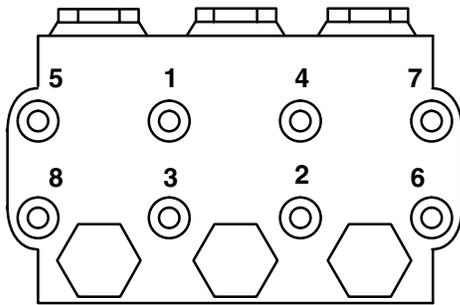

Fig. 4
9. Install the capscrews and washers fingertight. Torque the screws to 12 N-m (8.8 ft-lb) following the tightening pattern shown in Fig. 4. Uneven tightening could cause the manifold to bind or jam.